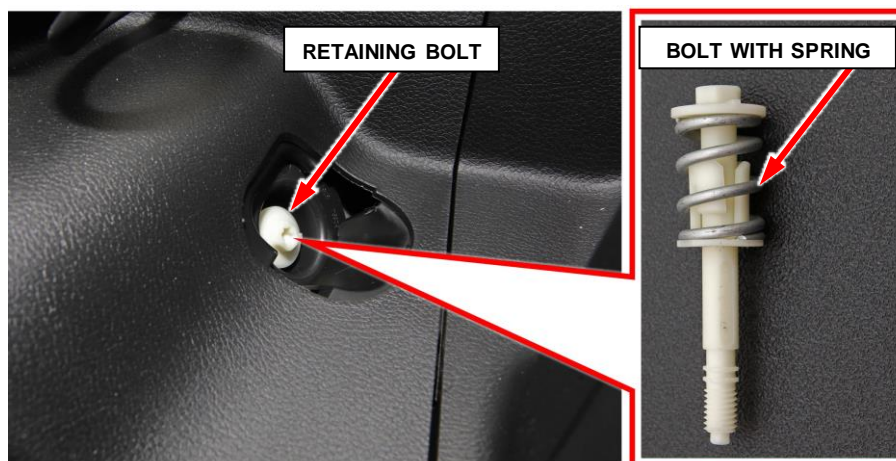

Figure 3 – Tail Lamp Retaining Bolt
5. Remove the retaining bolt with spring securing the tail lamp (Figure 3).
13. Install and tighten the tail lamp retaining bolt with spring to 1.9 N·m (16.8 in. lbs.) (Figure 3).